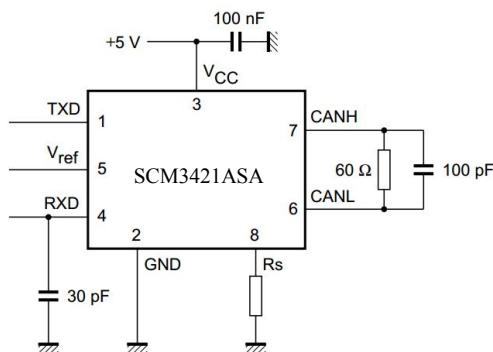
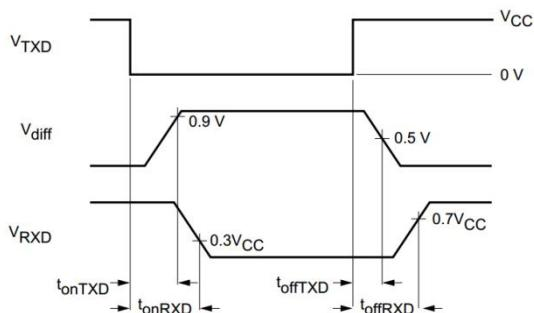

Figure 2. Dynamic characteristic test circuit
Figure 3. Dynamic characteristic timing diagram
(1)If not stated otherwise,  $RL = 60 \Omega$ ;  $CL = 100 \text{ pF}$ ; see Figure 2, Figure 3.